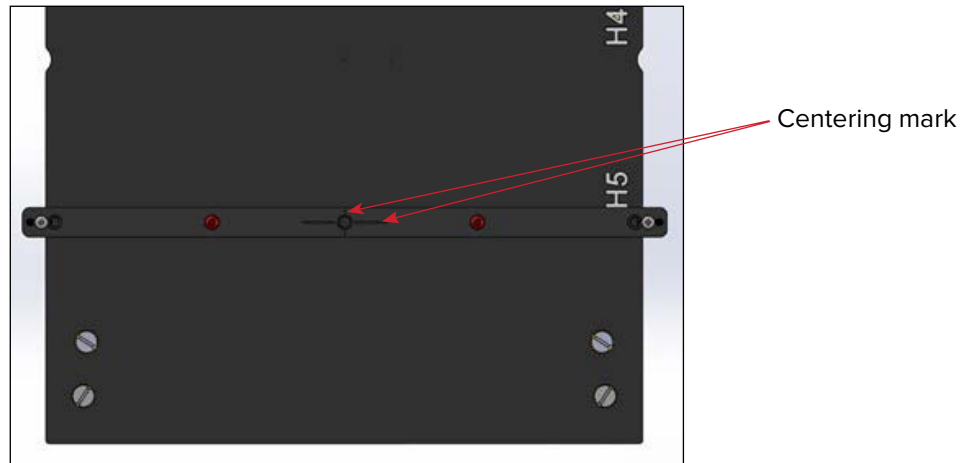

Fig. 19
3. Using the CT Laser alignment system, determine where the alignment beam hits the Centering mark on the Locating Bar (Fig. 19).